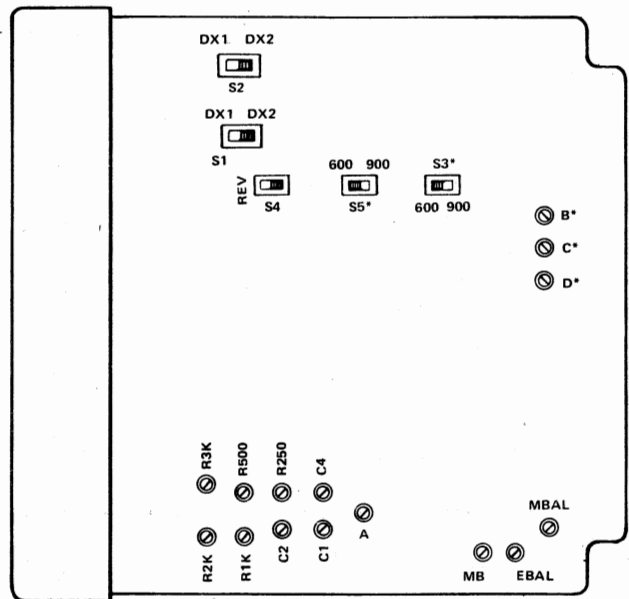

Figure 5. 7315-00 And 7316-00 Option Locations (* On 7315-00 Only)
6.01 The 7315-00 includes switch options which permit either DX1 or DX2 operation, and 600- or 900-ohm repeat coil impedance. It also has screw options which provide proper balance of the windings on the bistable relay, the capacitive matching network, and the midpoint capacitors. See Figure 5 for the option locations.
6.02 The 7316-00 provides for all the same options as the 7315-00, except for the 600- or 900-ohm options (switches S3 and S5) and the A1- and B1-lead midpoint capacitors. Refer to Figure 5 for the option locations.